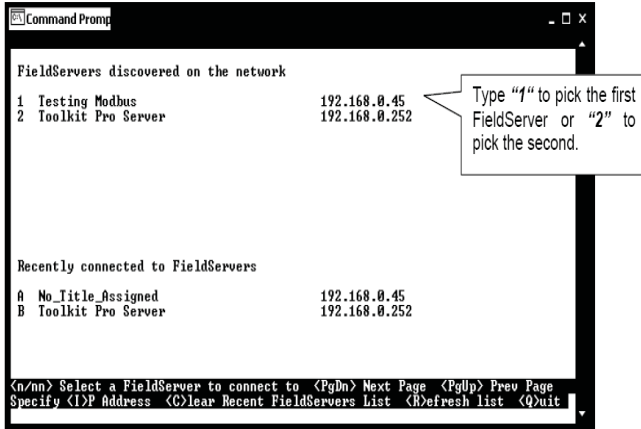

Figure 13: RUINET PT-Link Selection Menu
7.) On subsequent connections, a list of PT-Links that have been recently connected may appear under the message “Recently connected to FieldServers. Select the required PT-Link by typing the Number or Letter in the left hand column. (Figure 13).